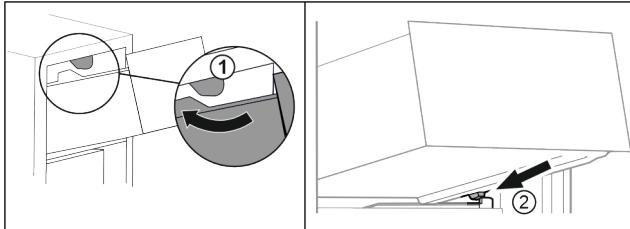

Fig. 90
- ▶ Guide drawer around the upper stoppers. Fig. 90 (1)
- ▶ Place drawer at an angle behind the lower stoppers on the molded rib. Fig. 90 (2)